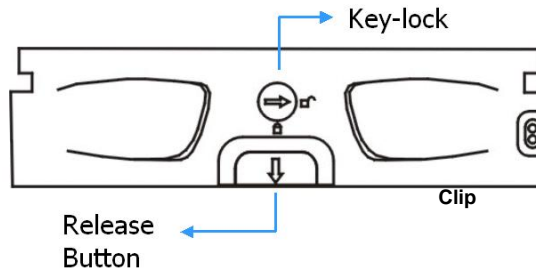
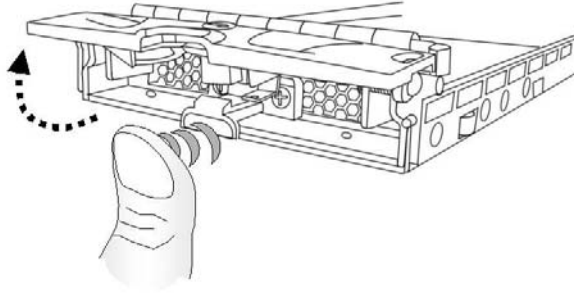

Figure 2-15: Front View of an Individual Drive Tray
Figure 2-16: Drive Tray Front Flap
- Step 1. **Make sure the key-lock is in the unlocked position**, i.e., the groove on its face is in a horizontal orientation. If the groove is in a vertical position, as shown in **Figure 2-15**, then the key-lock is locked and the front flap on the drive tray cannot be opened.
- Step 2. **Open the front flap on the drive tray** (See **Figure 2-16**) by pushing the release button (shown in **Figure 2-15**) on the front of the drive tray. The button is easy to access and lift.